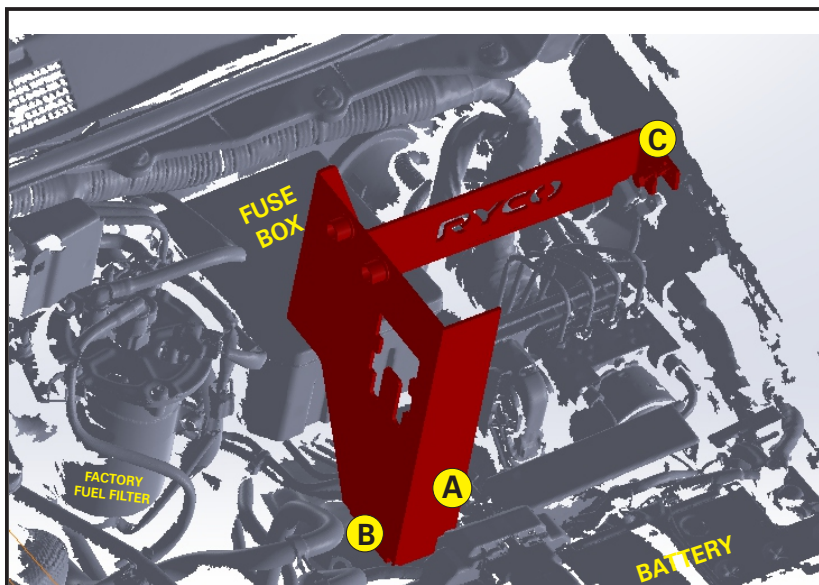

FIG. 1 BRACKET IN ENGINE BAY
1. Remove the two (2) factory M6 flange nuts holding the factory wire harness bracket (black), from Point **A** and **B**.
2. Locate the threaded hole at Point **C** on the side wall. Position the bracket in the engine bay as per Fig. 1, placing Point **A** and **B** onto factory studs and Point **C** onto the side wall. Place the factory wire harness bracket on top of the FB9809C bracket foot, as per Fig. 2.